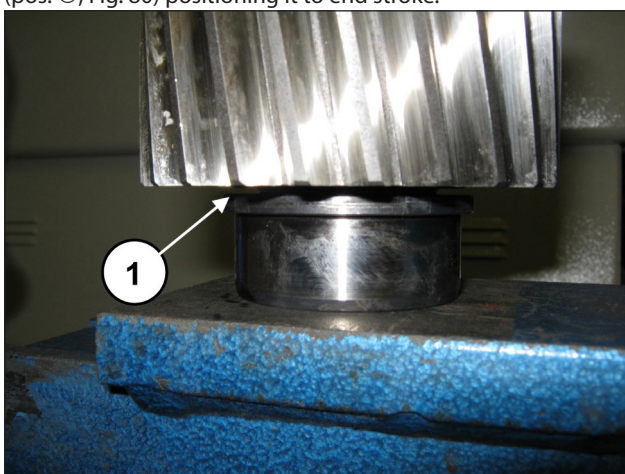

Fig. 80
Pre-assemble the inner bearing ring 40x90x23 on the pinion (pos. ①, Fig. 80) positioning it to end stroke.